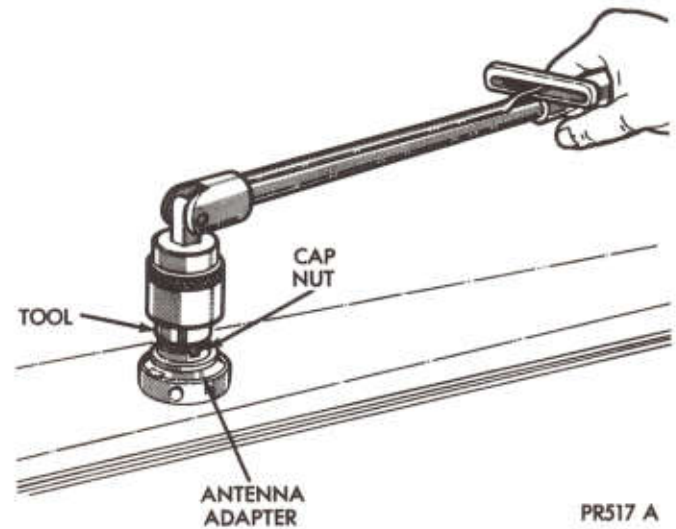

Fig. 9—Cap Nut and Adapter
- (6) Pull cable from "A" post.
- (7) **Loosen** antenna mast from antenna body. **Do not remove at this time.**
- (8) Loosen cap nut using tool C-4816 (Fig. 9).
- (9) While holding antenna mast with one hand, remove cap nut with other hand.